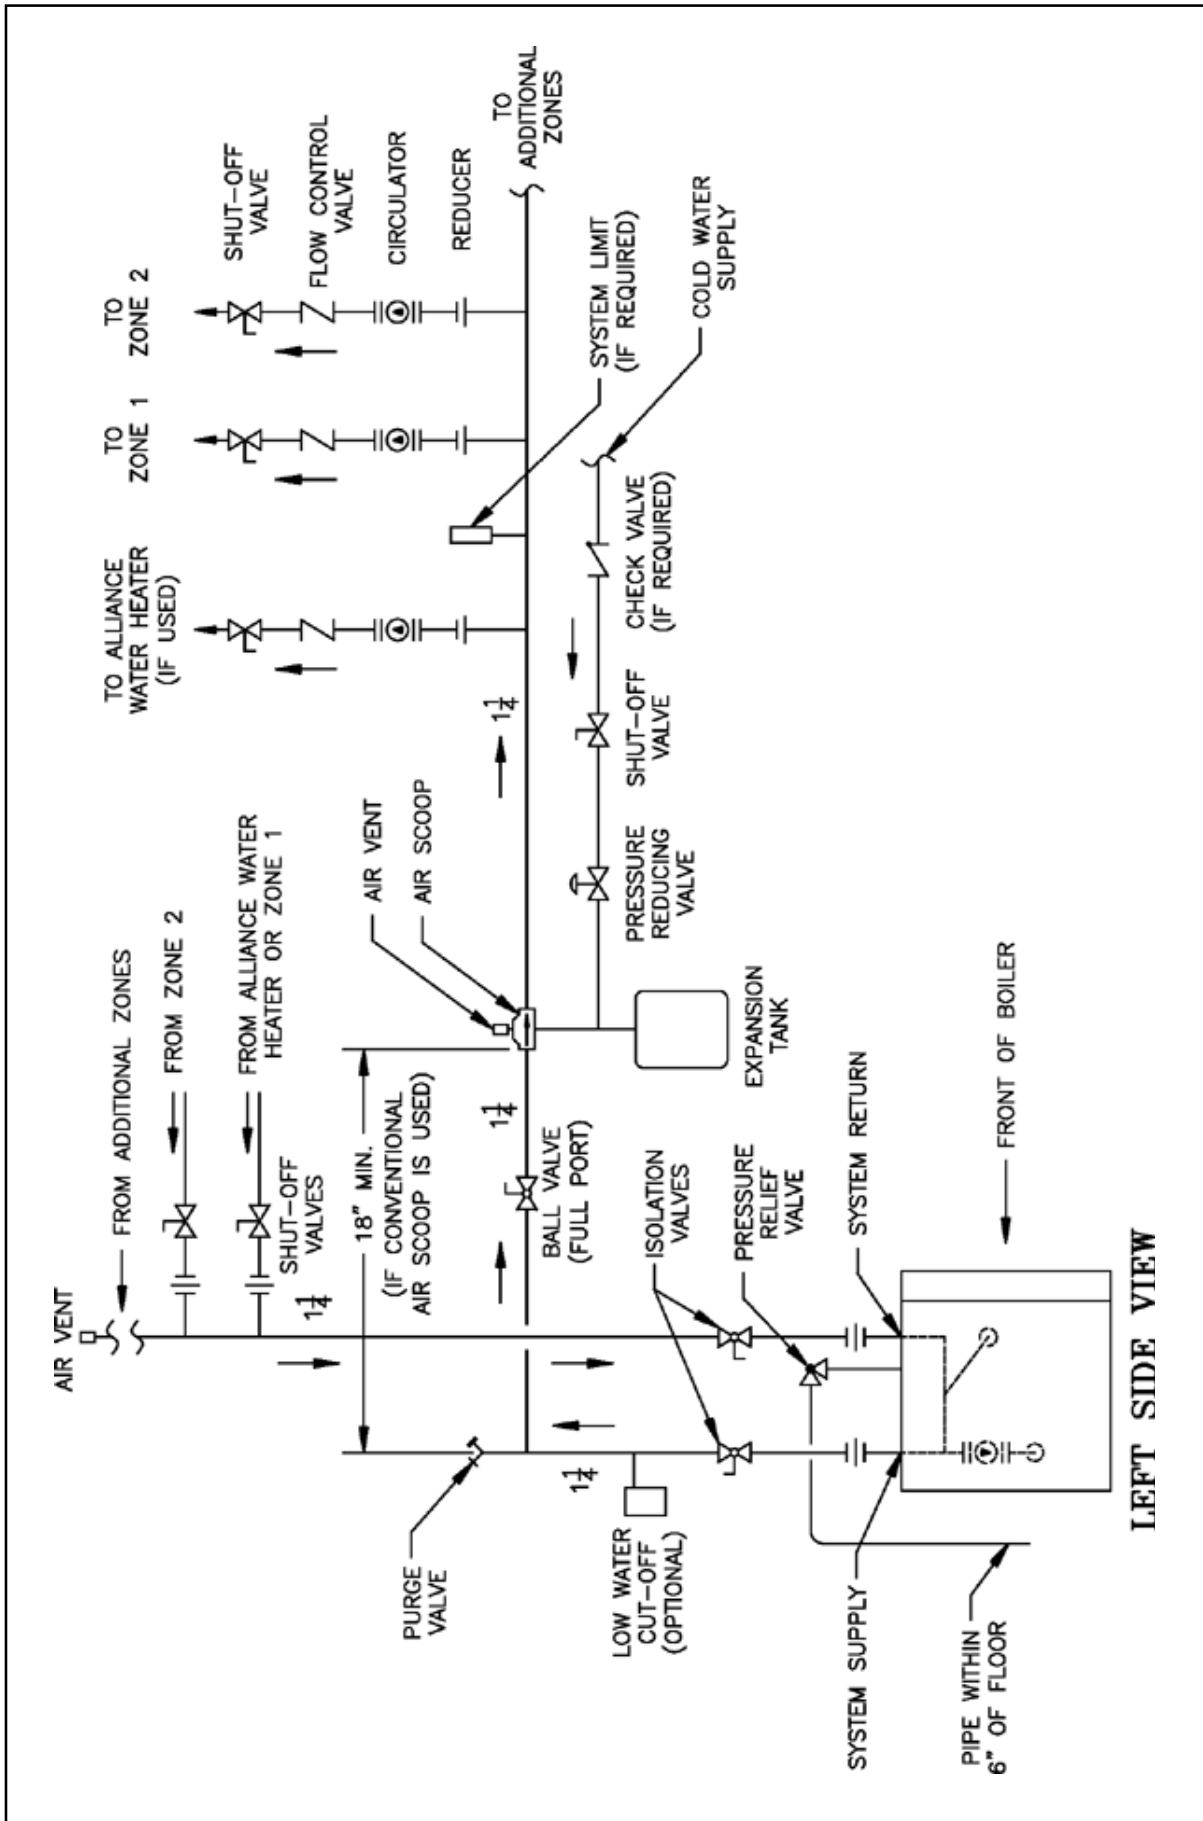

Figure 28: Recommended Boiler Piping For Circulator Zoned Heating Systems
B. Connect system supply and return piping to boiler. See Figures 28 and 29. Also consult I=B=R Installation and Piping Guides. Maintain minimum 1/2 inch clearance from hot water piping to combustible materials. Refer to Burnham Radiant Heating Co. manual for radiant floor system piping recommendation.
D. Install Pressure Relief Valve. See Figure 28. Pressure Relief Valve must be installed with spindle in vertical position. Installation of the relief valve must comply with the ASME Boiler and Pressure Vessel Code, Section IV.